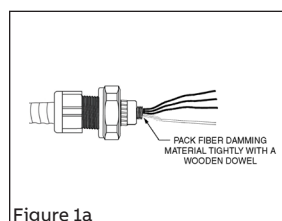

Figure 1a
- Pack the fiber damming material tightly into all voids between conductors and body and spread strands of uninsulated grounding conductor, where applicable (Figure 1a).